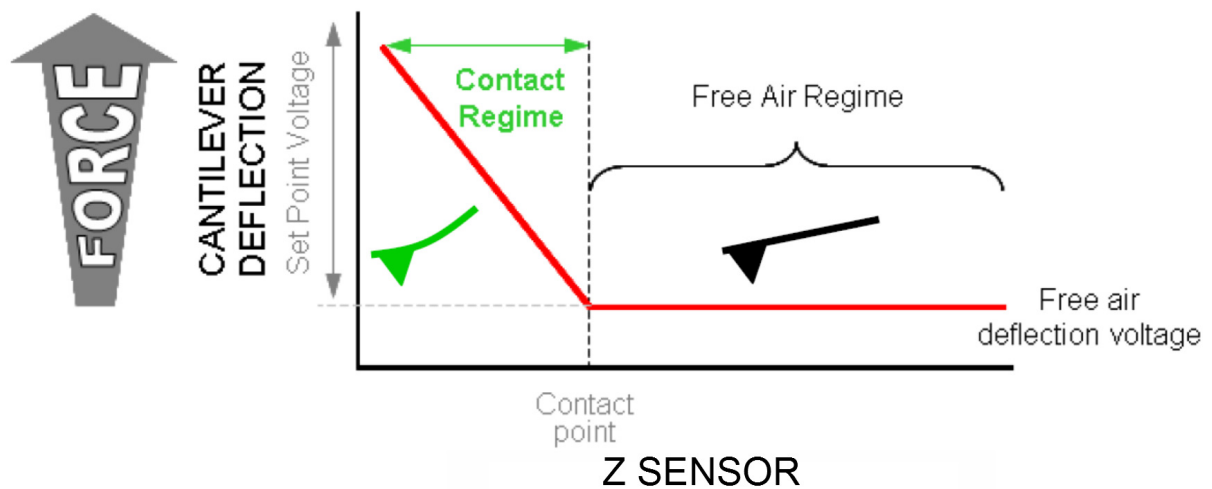

Figure 10.1.: Deflection vs. Z Sensor
1. With a properly loaded cantilever, adjust the Photodetector (PD) to 0 volts or a slightly negative value. The slight negative free air deflection will place the SLD spot in the middle of the PD (where the range is more linear) when the tip is engaged.
2. To conceptually aid the selection of the *Set Point* voltage, a qualitative depiction of cantilever deflection vs. Z position is shown in Figure 10.1 on page 130. In contact mode the AFM will try to maintain the measured deflection equal to the setpoint. The greater the setpoint voltage is (above the free air deflection voltage), the greater the force applied by the cantilever to the sample. To know exactly how much force is being applied during imaging, the cantilever spring constant must be determined. This will be not be necessary for this tutorial.